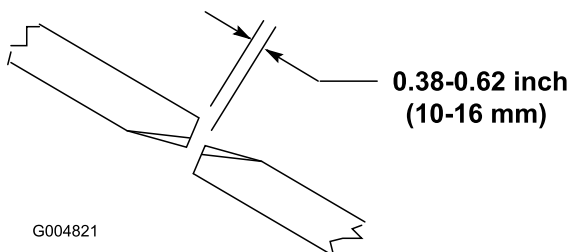

Figure 25
To ensure proper operation of the mower deck, there must be a 10 to 16 mm (0.38 to 0.62 inch) clearance between the tips of the side and center mower-deck blades (Figure 25).
2. Rotate a center and adjoining side blade so the blade tips are aligned. Measure the distance between the blade tips (Figure 25).